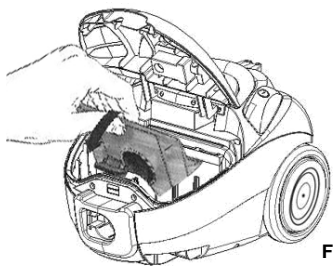

Fig. 7
- Tilt the bag forward as shown in Fig. 7.